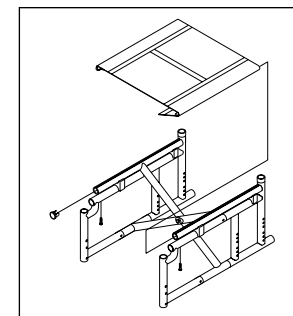

Figure 16
The seat sling can be adjusted through the use of hook and loop material beneath the seat. Seat sling also includes a folding strap on the seat to assist in folding the chair. (Fig. 16)
1. Adjustment (Fig. 16)